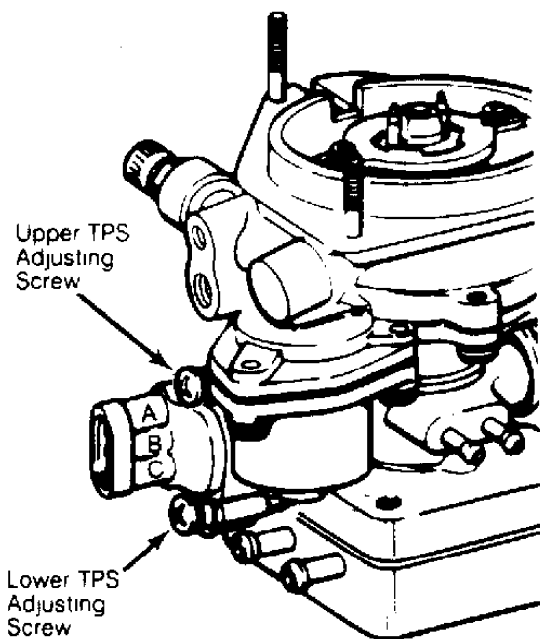

Fig. 4: Adjusting Throttle Position Sensor (Man Trans)
1) Turn ignition on. Connect voltmeter through back of wiring harness connector. Connect negative voltmeter lead to terminal "B" and positive voltmeter lead to terminal "C". DO NOT disconnect TPS connector. See Fig. 4.